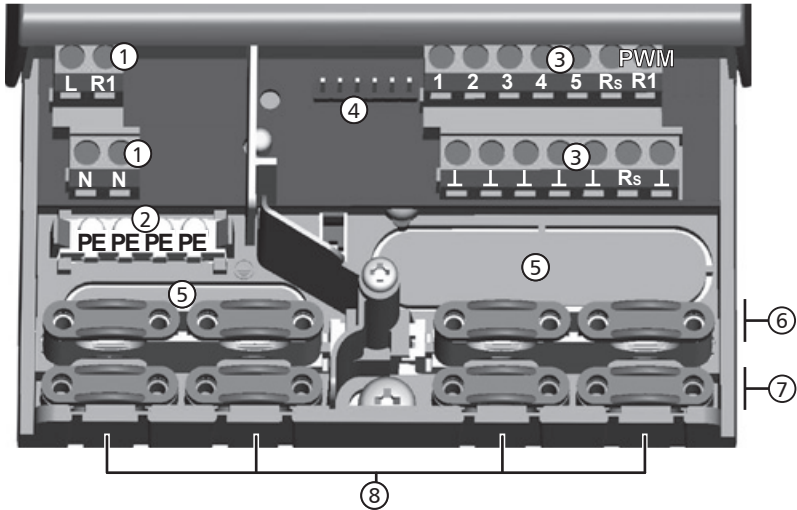

Fig. 3: Terminal clamps in the lower part of the controller (terminal cover removed)
1. Break out the cable openings ⑤ (Fig. 3) using a suitable tool.
1. Cut the *required* cable openings ⑥ (Fig. 3) at the left and right using a suitable knife and break them out.